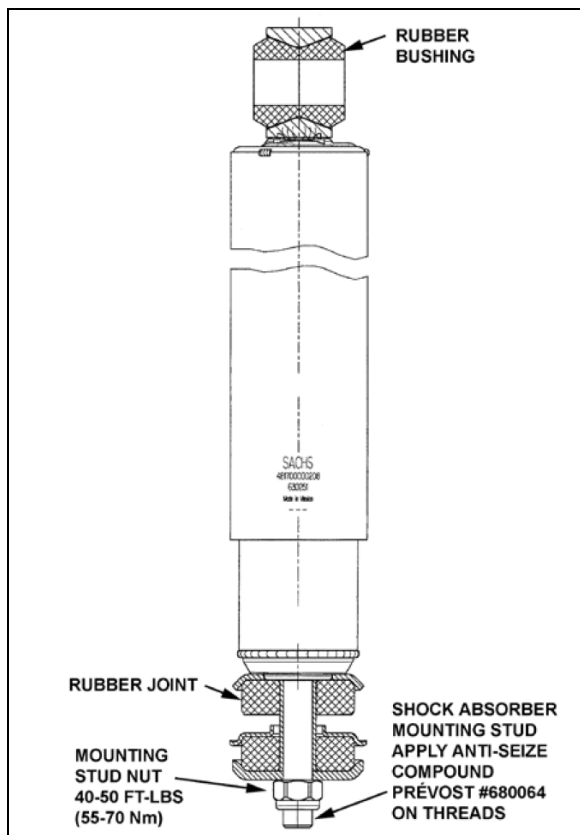

FIGURE 33: SHOCK ABSORBER
2. Using a caliper, measure dimension A on figure 33.